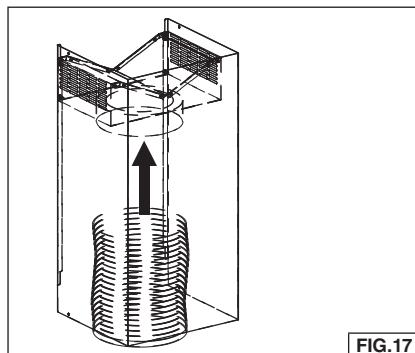

FIG.17
4. Attach 6-inch expandable ducting to the plenum and tape joint with aluminum duct tape. Fig. 17.